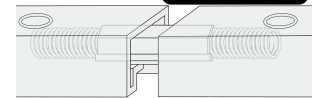

Figure 8-1
Step 9: Adjust the snugger until it connects the two tracks (Figure 8-1).